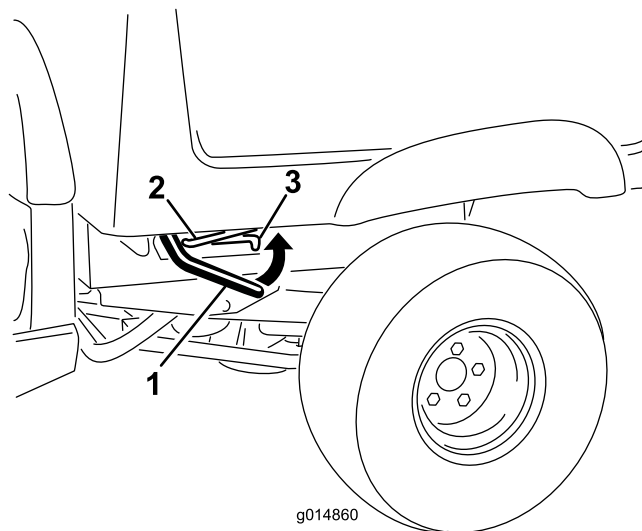

Figure 17
1. Lift the latch lever that is at the either side near the forward corner of the cargo box, and lift the box up (Figure 17).
2. Secure the cargo box by pulling the prop rod into the rear detent at end of the slot that is in the left frame of the machine (Figure 17).
1. Raise the cargo box slightly by lifting up on the latch lever (Figure 17).
2. Pull the prop rod out of the detent slot (Figure 17).
3. Lower the box until it latches into securely (Figure 17).